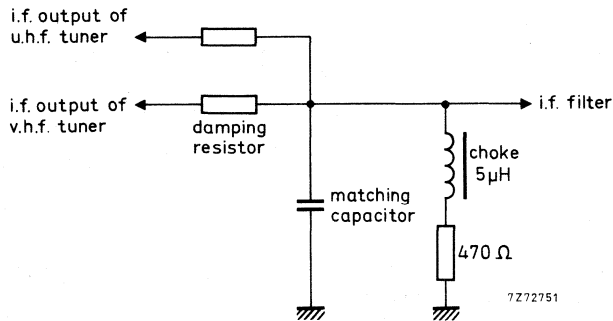

Fig. 12.
The tuner needs a d.c. path from the i.f. output terminal (T) to earth, preferably via a choke of approx. 5  $\mu$ H outside the tuner (Fig. 12).
In the case where the tuner is used in combination with a u.h.f. tuner, this choke can be common for both tuners; a resistor in series with the choke can make ineffective the i.f. output circuit of the switched off tuner. For damping the i.f. output circuit and matching the i.f. output impedance of the tuner to the i.f. amplifier, a series resistor and a parallel capacitor as shown in Fig. 12 should be used.